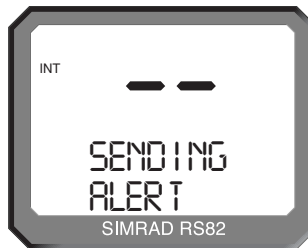

Fig 9.10 - Sending a Distress Alert
**Press and hold** the **DISTRESS** key to begin the 5-second countdown – the large digits will count down from 5 to 1 before initiating the Distress Alert, then the display will change to show “SENDING ALERT” (Fig 9.10).